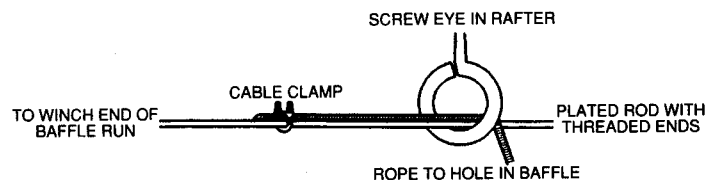

Figure 2
14. Pass the loose end of the lift cord through the nearest screw eye with the loose end toward the winch end of the baffle system. Clamp the cord to the rod near the end of the cable with all slack removed (see Figure 2). Continue connecting lift cords to the rod until all baffle sections are secure.